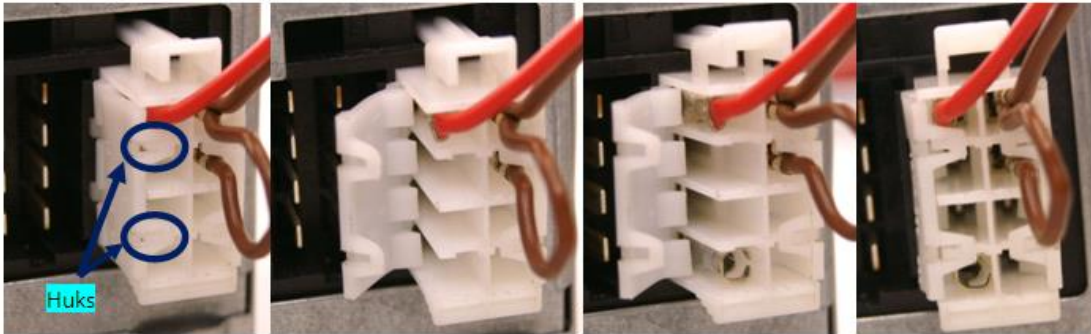

Figure 101 Adding contact on tachograph connector
- Tachograph mounted on vehicles does not have D8 contact. In order to add it, you have to undo the hooks and add the contacts (Figure 101). Contact code in Farnell system: 925596-1.